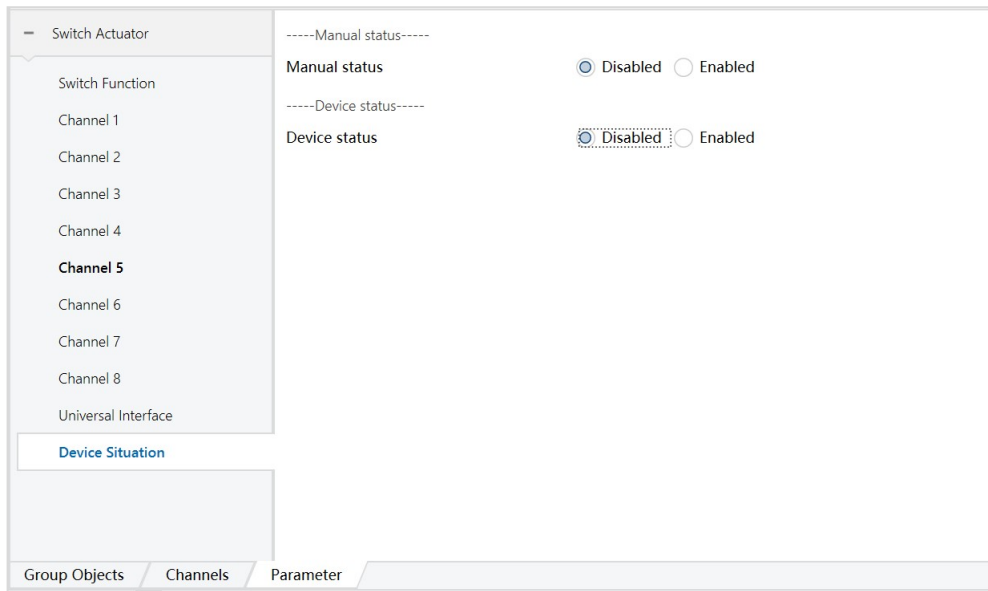

Figure 6.3.1
1) Click "Device Situation" as shown in Figure 6.3.1, when the parameters Manual status and Device status are set to Enabled, the corresponding functions will be enabled.
The 8-way switching actuator has a total of 90 objects, as shown in Figure 6.3.1, and the specific functions are shown in Table 1.1.